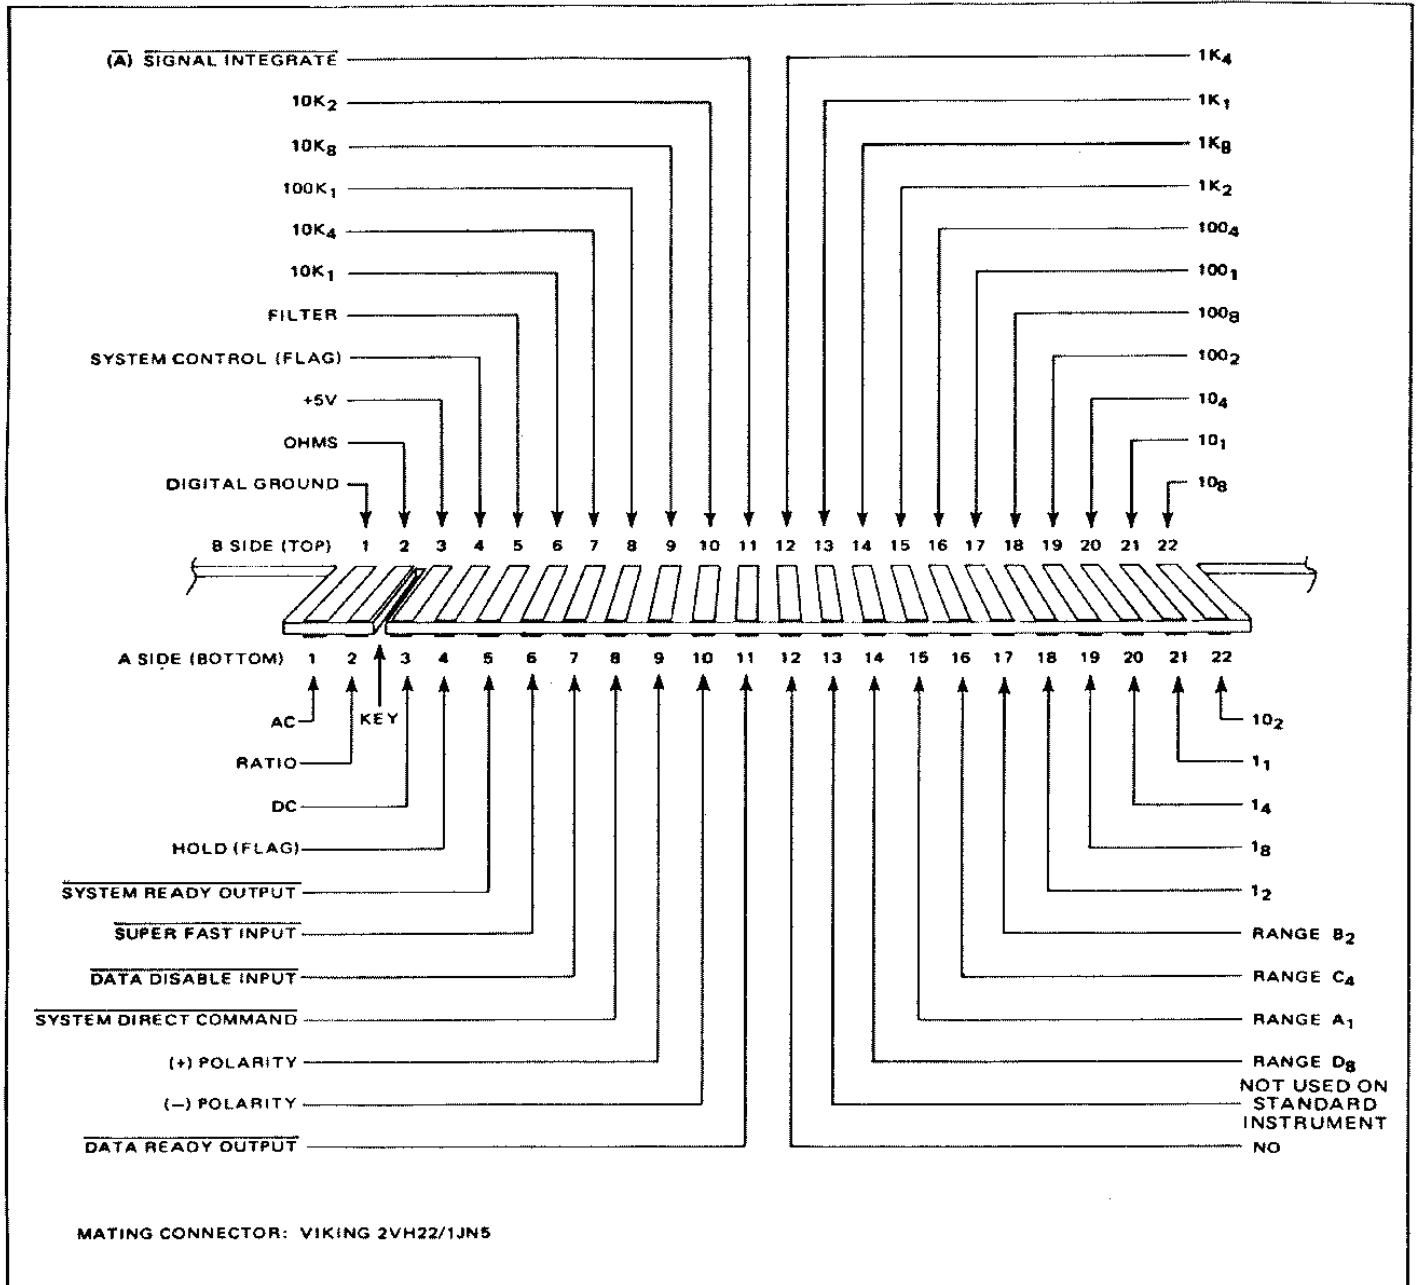

Figure 2.15 - Pin Assignments J201 PRINTER OUT
2.71 The printer output connector is a double-edged PCB connector (extension of Interconnection and Logic board) with pins A1 through A22 on the bottom edge and pins B1 through B22 on the top edge. Pin assignments are shown in figure 2.15. All outputs are referenced to digital ground pin B1.
2.73 Numerical data appears as positive true, four-line BCD code, as shown in figure 2.15. The designator of each line identifies the digit and weight. For example: Pins A18, 19, 20, and 21 are designated 12, 18, 14, and 1, consecutively. The 1 indicates these lines correspond to the units or least significant display; the 2, 8, 4, and 1 subscripts indicate the binary weight of each line.